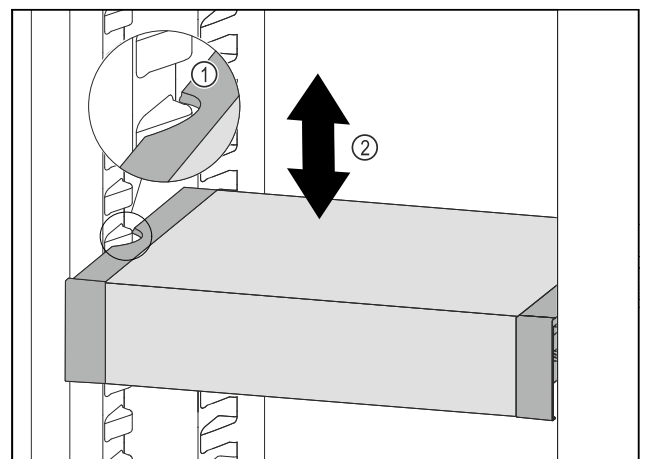

Fig. 134
- Pull VarioSafe forwards until the recesses in the side of the VarioSafe are at the level of the support rib in the refrigerator compartment. Fig. 134 (1)
- Move VarioSafe up or down in the refrigerator compartment until the desired height is reached. Fig. 134 (2)